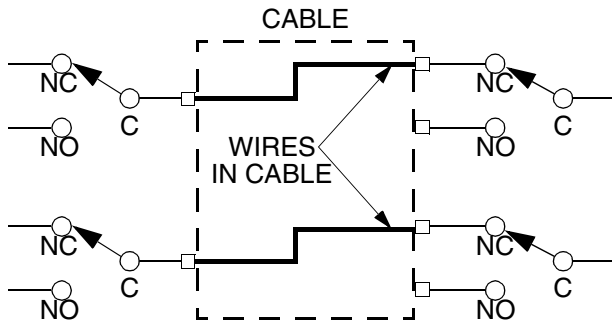

Figure 18. Series Connections for NC Alarms Cable
5.18 The NC terminals must be connected in series, and not connected as a daisy chain. A special cable must be constructed and supplied by the customer. Figure 18 is a generalized schematic showing typical series connections.
5.23 When using the NC alarm closures, use a cable prepared to connect alarms in series (Figure 18), and perform steps 1, 3, 4, and 5 of the procedure when using NO alarm closures.